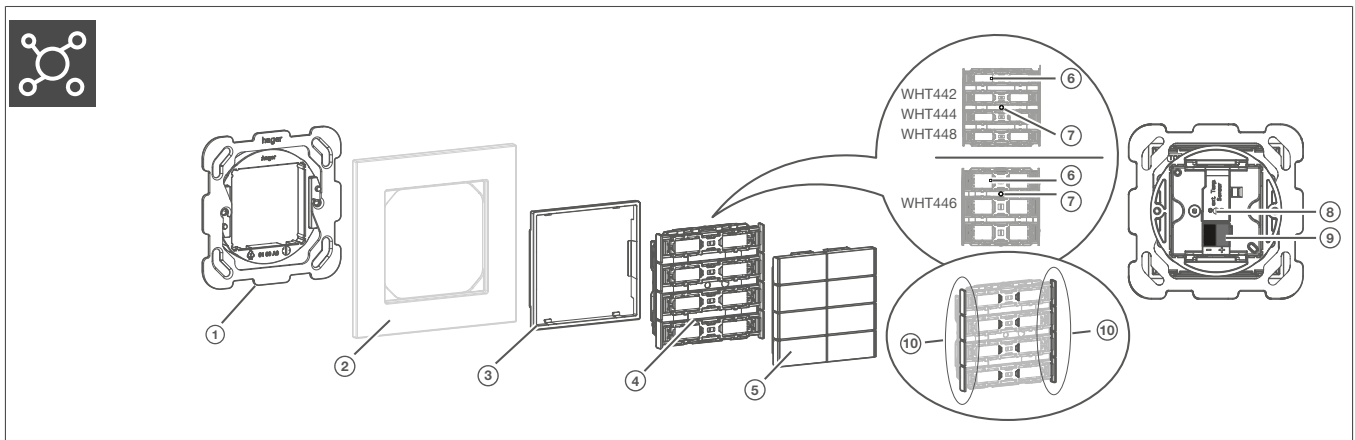

Fig. 5: Design and layout of the device
- 1 If available, release the buttons using the programming button Fig. 5/7: Design and layout of the device .
The programming LED Fig. 5/6: Design and layout of the device lights up.